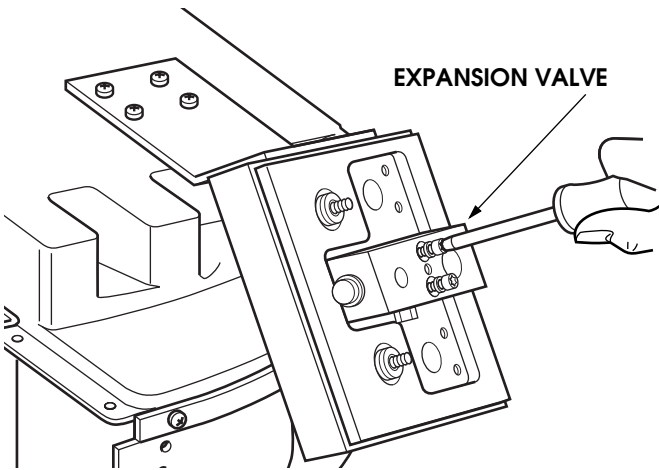

Figure 11-104: Expansion Valve Removal
18. Remove expansion valve from the passthrough plate, discard gasket (Figure 11-104).